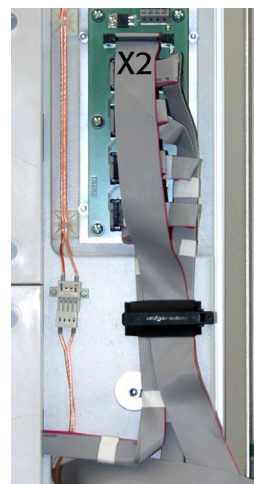

fig. 3.1-34
Step 25: Then connect the manifold PCBs to the control panel using the two (2) **26-stranded** flat ribbon cables. The broad flat ribbon cables are marked as "A" and "B" as well as the plug number "X2". Connect the plug of flat ribbon cable "A" to the plug "X2" of the manifold PCB at the right upper basic module (**fig. 3.1-34**). The flat ribbon cable "B" has to be laid through the prepared hole of the left upper **module (OL)** to the rear side. Then it needs to be laid through the PVC installation channel at the back and through the hole again of the right upper **module (OR)** to the front in order to be connected to the control panel. Please be aware that you need to follow these instructions only if it has not been delivered that way. Now connect the flat ribbon cable "B" to the plug "X2" of the manifold PCB at the left upper basic module.